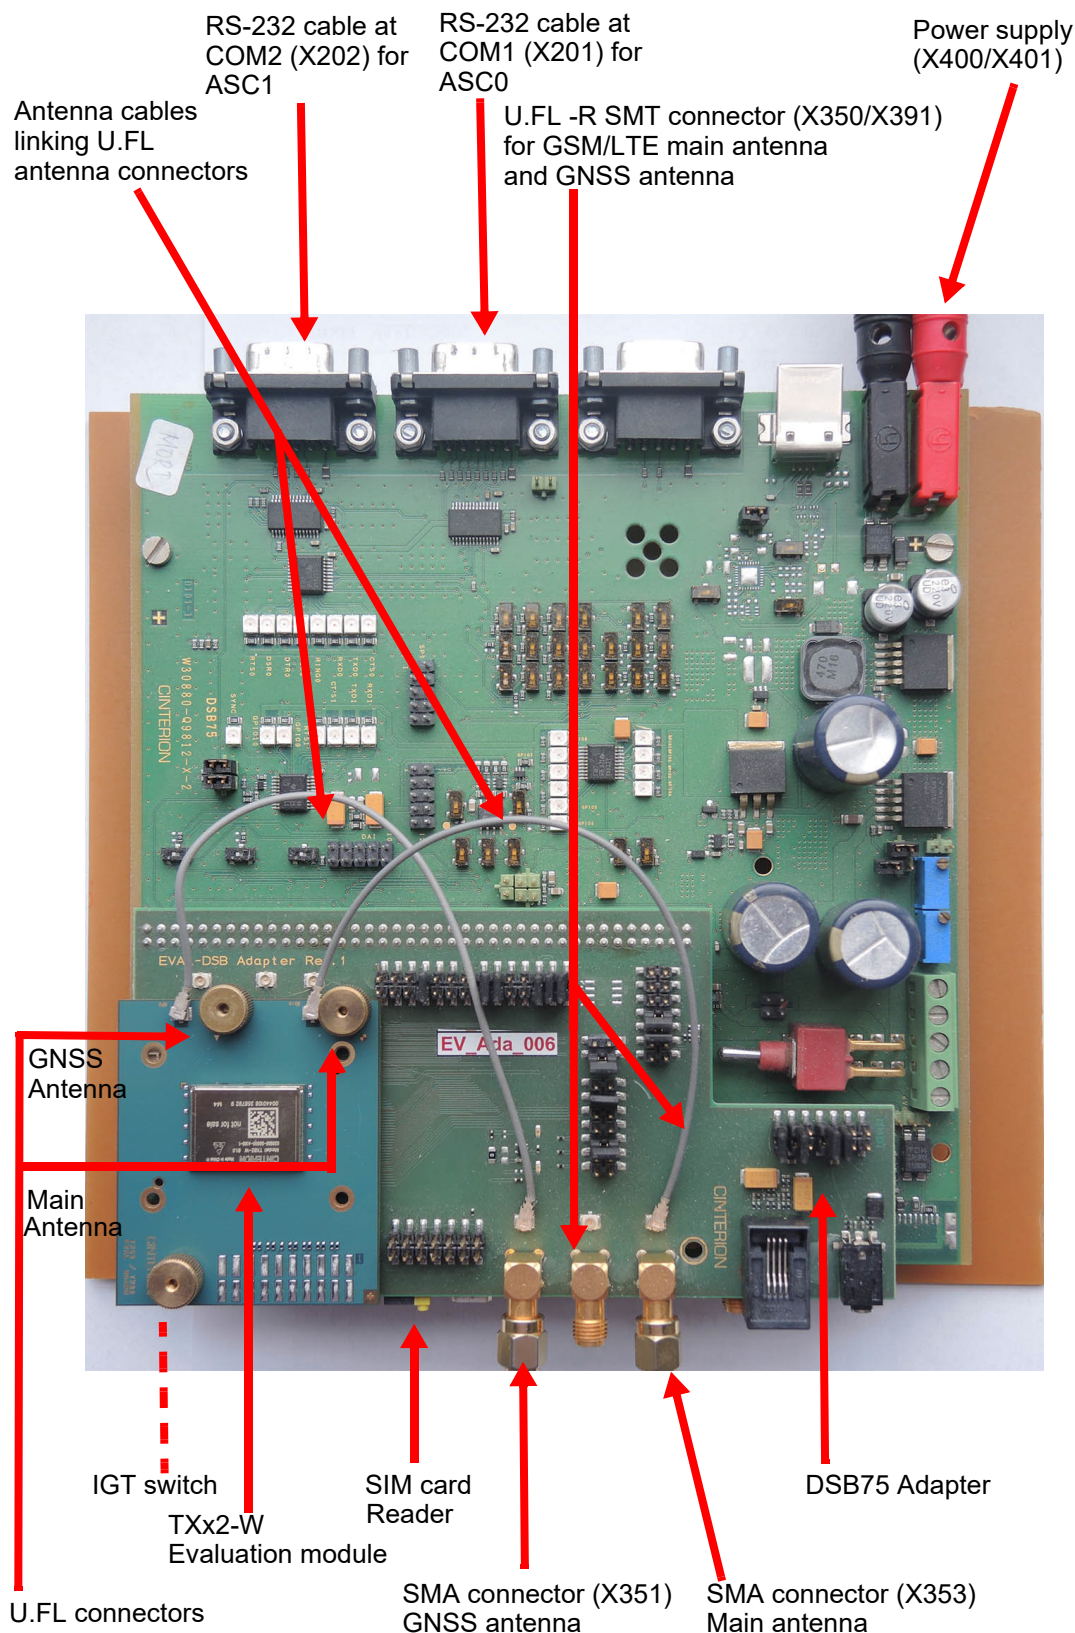

Figure 2: Module mounted onto DSB75 Adapter and connected to DSB75
To properly connect the TXx2-W evaluation module and all accessories to the DSB75, complete the steps listed below. The complete setup, with the evaluation module mounted onto the DSB75 Adapter and the DSB75 Adapter connected to the DSB75, is shown in Figure 2.
- Press the ignition switch S421 on the DSB75. The ignition switch is located on the component side of the DSB75 as shown in Figure 2.